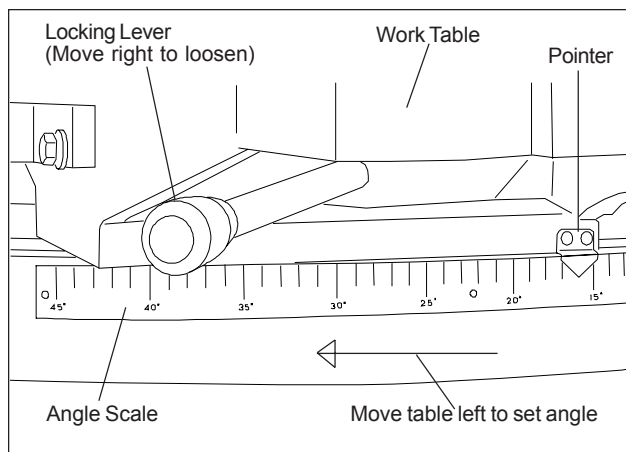

Figure 7: Quick-Acting Swivel-Head Lock
8. The quick acting swivel-head lock (refer to Figure 7) is used to release and lock the swivel-head when making angular material cuts.
- Move locking lever to the left to unlock swivel-head (refer to Figure 7).